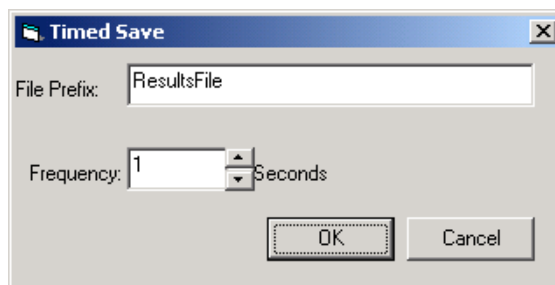

Figure 8-67. Timed Save
- 6 Adjacent to the workshop icon is the timed save icon (clock and diskette). Select this icon and the pop-up window shown in *Figure 8-67* is displayed.